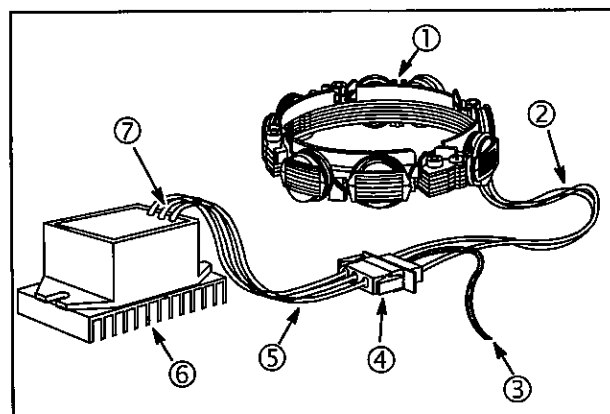

Fig. 30
- Stator assembly (1), Fig. 30.
- Two YELLOW leads (2) from stator.
- RED DC output lead (3) from connector.
- Connector (4).
- Two YELLOW AC input leads (5).
- Regulator-rectifier (6).
- RED DC output lead (7) to connector